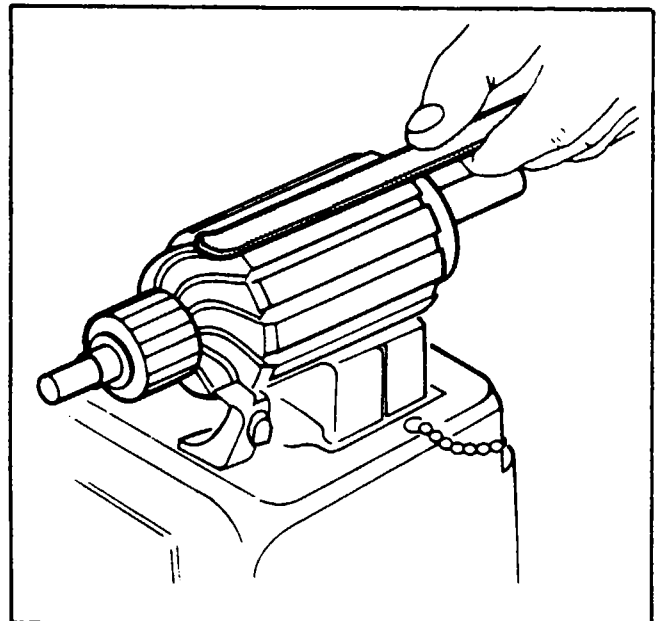

Figure 11-17. Testing Motor Armature for Shorts
c. To test for shorted armature coils, a growler is used. (Refer to Figure 11-17.) The armature is placed on the growler and slowly rotated by hand while a steel strip is held over the core so that it passes over each armature core slot. If a coil is shorted, the steel strip will vibrate.